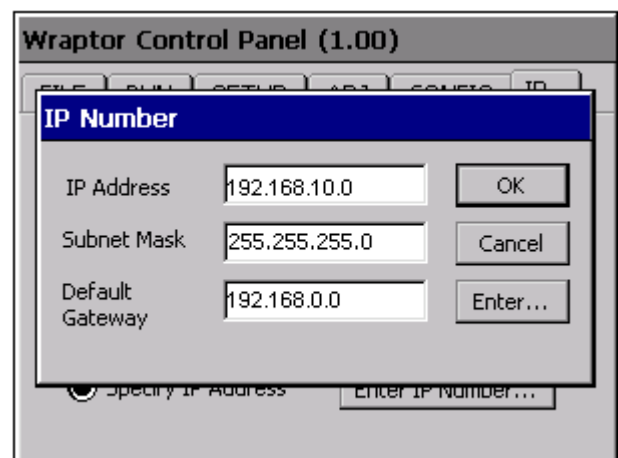

Figure 24. Fixed IP Address Entry
- ◆ Press the **Enter IP Number...** button to display the *IP Number* dialog (*Figure 24*) appears. Repeat the process to enter the IP addresses in this dialog.